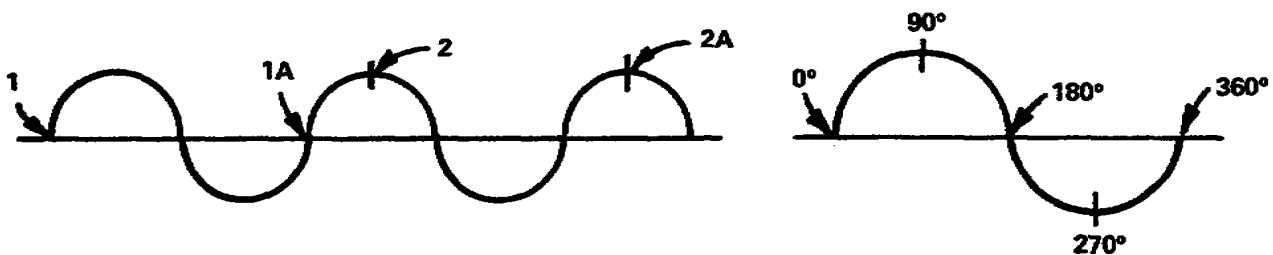

Figure 1-8. Sine waves
a. Frequency denotes the first characteristic of sound and a part of a sine wave. The frequency of a wave equals the complete number of cycles occurring in one second of time. One complete cycle starts at one point on a wave and traces to the next same point further on down, or from 0 degrees to 360 degrees (fig 1-8).